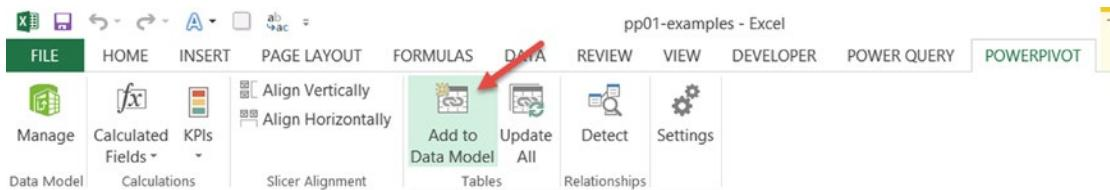

Figure 24-5. Adding tables to the data model through the PowerPivot tab
2. Click Add to Data Model in the Tables group (see Figure 24-5).